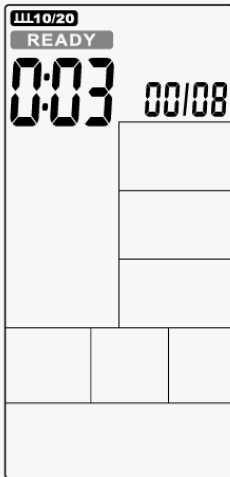

Figure 24
2. Cycle time counts down from 3 to 0 then console start, meanwhile buzzer beeps once per second and READY flashes once per second, counting displays '00/08' (Figure 24).